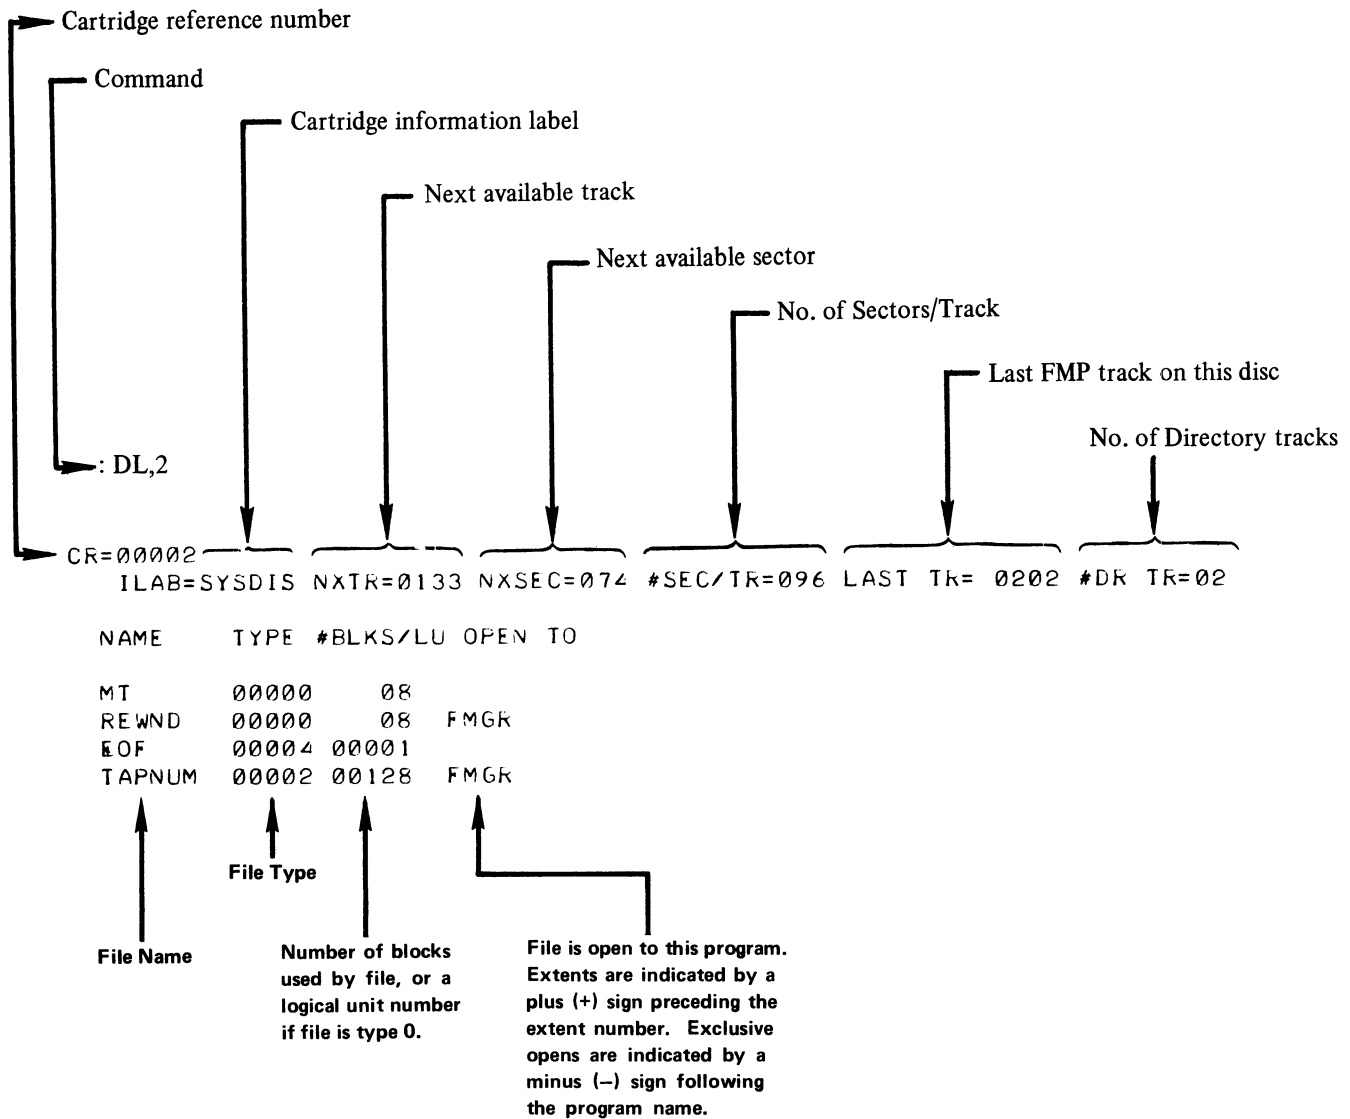

Figure 3-1. Short List
- The *label* parameter indicates which cartridge file directory is to be examined. If *label* is not present, or it is a 0, all mounted cartridge directories will be listed. There are two list formats. Figure 3-1 shows the format when the master security code is not provided.
- Figure 3-2 shows the format when the master security code is provided. In addition to the information described in Figure 3-1, the file security code plus track and sector addresses are provided.
id	is the cartridge information label (ILAB – refer to Figure 3-1/3-2), and must have the characteristics of a legal file name. Refer to text under the heading NAMR for a description of a legal file name. id is printed in the head of the directory listing.